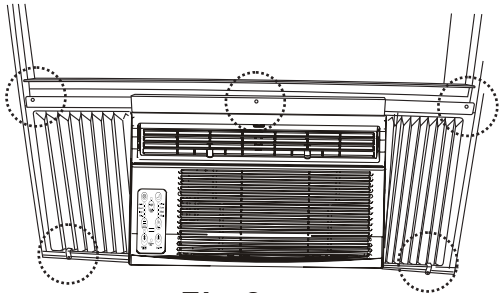

Fig.8
- B. Drive 3/4" (19mm) or 1/2" (12.7mm) locking screws through frame holes into window sash (Fig.8).